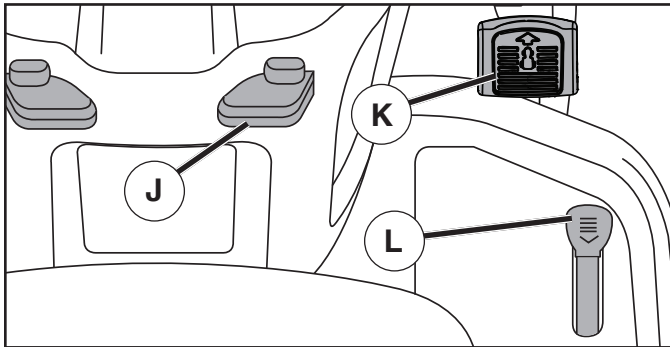

Fig. 20
## TO MOVE FORWARD AND BACKWARD (See Fig. 20)
- Slowly depress forward (K) or reverse (L) drive pedal to begin movement. Ground speed increases the further down the pedal is depressed.
## TO USE CRUISE CONTROL (J) (See Fig. 20)